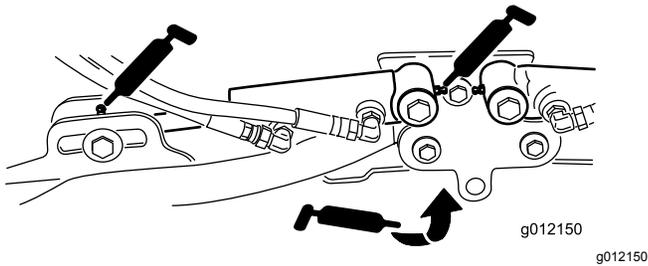

Figure 73
- Cutting-unit lift-arm cylinders (2 each) (Figure 73)
- Lift-arm pivots (1 each) (Figure 73)